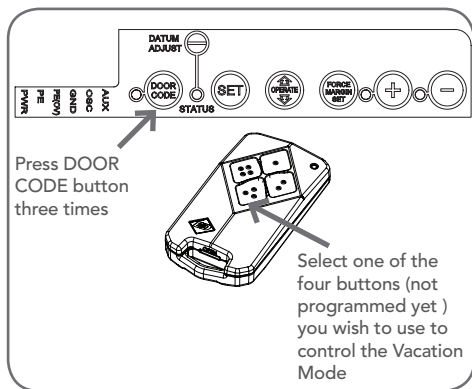

Fig. 8.3
- Press DOOR CODE button three times. The DOOR CODE LED will illuminate and the courtesy light will flash slowly (once every two seconds) to indicate Vacation learning mode is active. **(Fig. 8.3)**
- Press the same transmitter button again. The DOOR CODE LED will illuminate for one second and then go out, and the courtesy light will also switch off. This indicates the code has been stored **(Fig. 8.3)**.